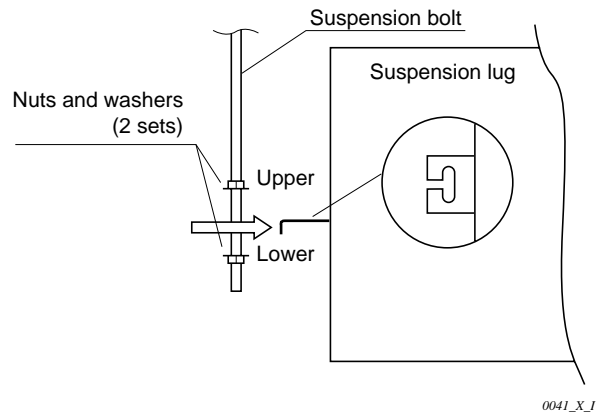

Fig. 3-5
- (3) Thread the 2 hexagonal nuts and washers (field supply) onto the 4 suspension bolts as shown in Fig. 3-5.